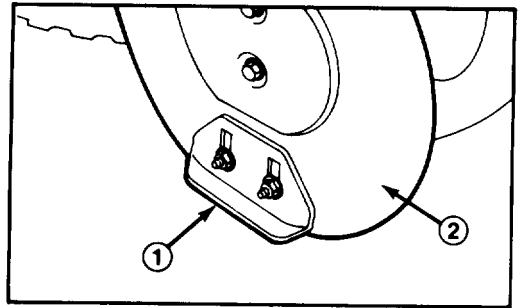

Figure 20
1. Move snowthrower to a level surface. Next, loosen four flange nuts (Fig. 20) securing both skids to auger side plates. Skids must slide up and down.
3. Loosen four flange nuts (Fig. 20) securing both skids down to auger side plates. Next, slide skids down as far as possible so auger is as far from level surface as skid adjustment allows; then tighten flange nuts.